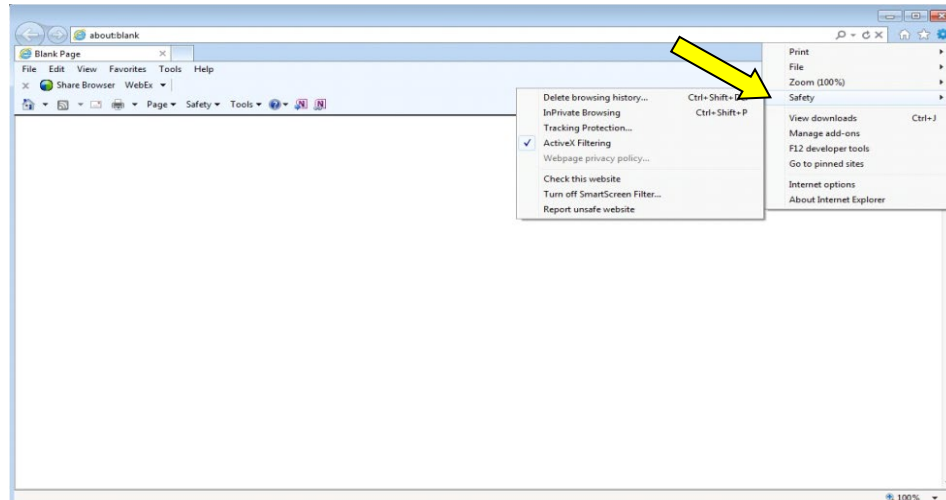

Figure 5-11: Safety sub-menu in Internet Explorer 9
- b. Hover over the Safety menu option to expand the **Safety** submenu, as shown in Figure 5-11.